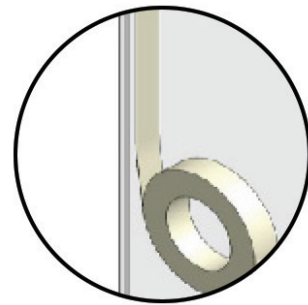

FIG 16.
- Hold glass to glass join in place with masking tape (FIG 16).